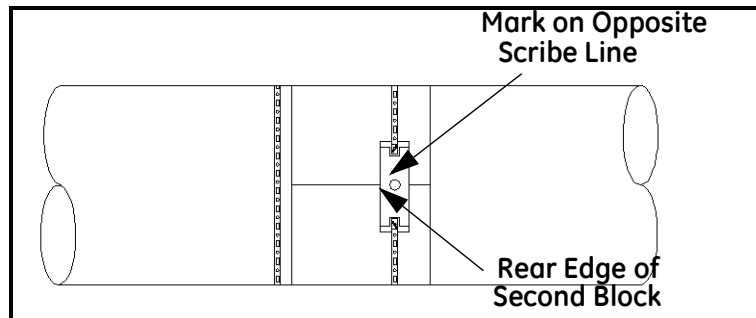

Figure 29: Lining up the Rear Edge of the Bracket with the 180° Scribe Line
4. Line up the *other* edge of the CFG-PI holder bracket with the scribe line and tighten the chain or strap, as shown in Figure 29 below.